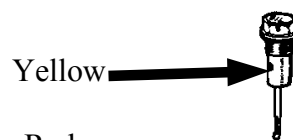

Fig. 1
1. Verify that the vented **YELLOW** dip stick is installed in pressure washer pump. *Remove the RED shipping plug (if present) from top of the pump and replace it with the YELLOW oil level dipstick provided. Fig. 1*